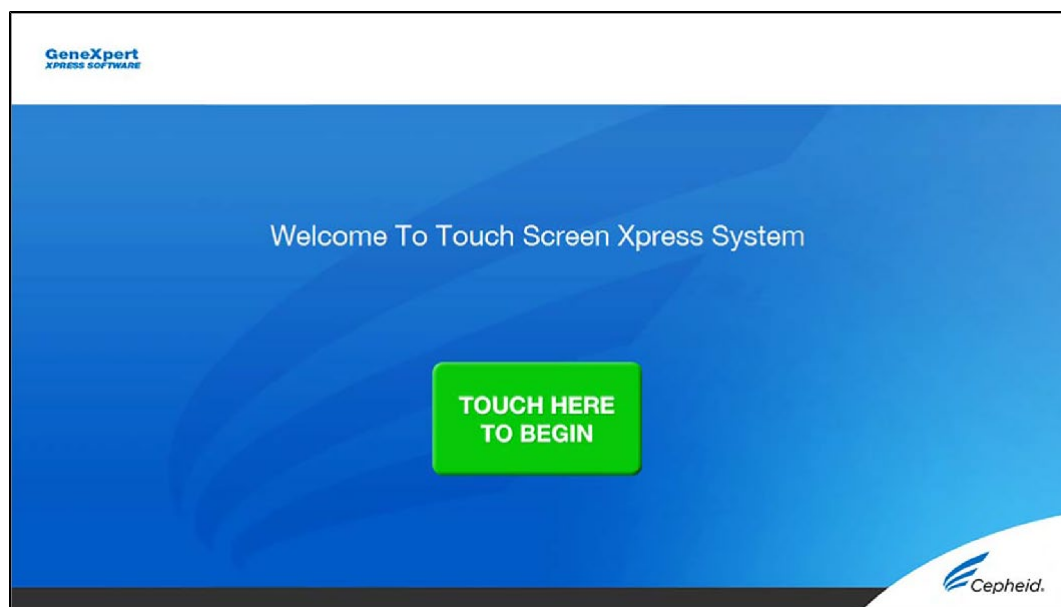

Figure 7. Welcome Screen
1. On the Welcome screen, touch the **TOUCH HERE TO BEGIN** button (see Figure 7).